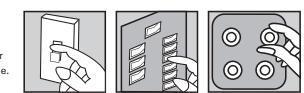

FIG. 1. Mettez le commutateur mural hors tension.
- A. Install fixture A (3) to mounting bracket (2) by tighten two screws (4) on top and bottom to secure it as seen in figure 1;
- B. Install fixture B (5) to fixture A (3) by tighten two screws (6) on left and right to secure it.
Step 5 - After mounting the fixture, caulk the surface between the fixture A(3) and the mounting surface.